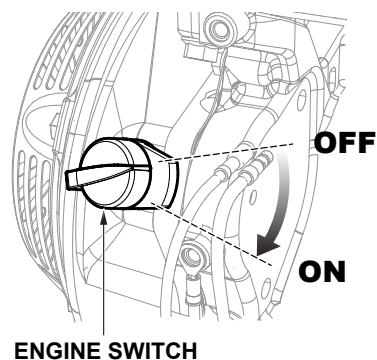

Figure 11. Engine ON/OFF Switch (ON)
6. Place the engine **ON/OFF** switch (Figure 11) in the **ON** position.